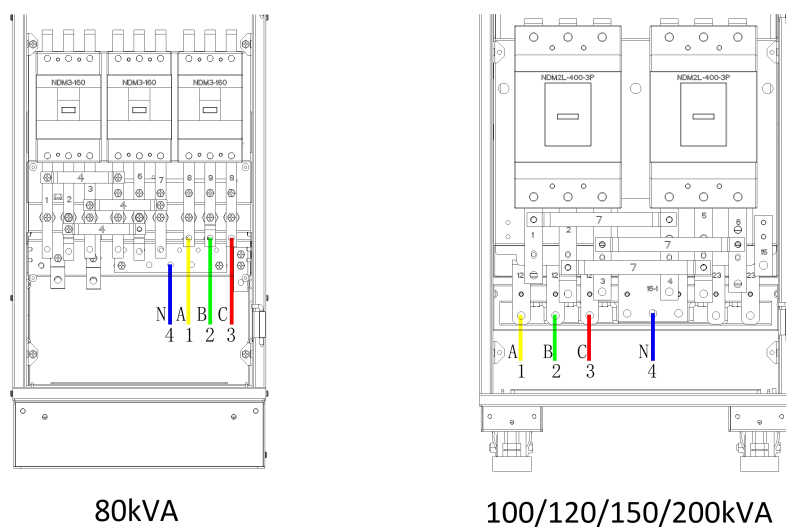

Fig. 3-13 Connection of AC output cable
- connect the mains input cables to the main distribution terminals A, B, C and N successively, as shown in Fig. 3-13.
Connect the output cables successively to the output distribution terminals A, B, C and N, as shown in Fig. 3-13.